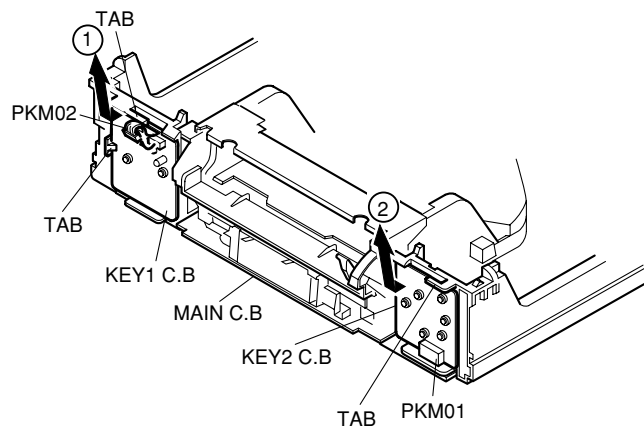

Fig. 2
3. Key1 C.B. and Key2 C.B. Removal (see Fig. 2)